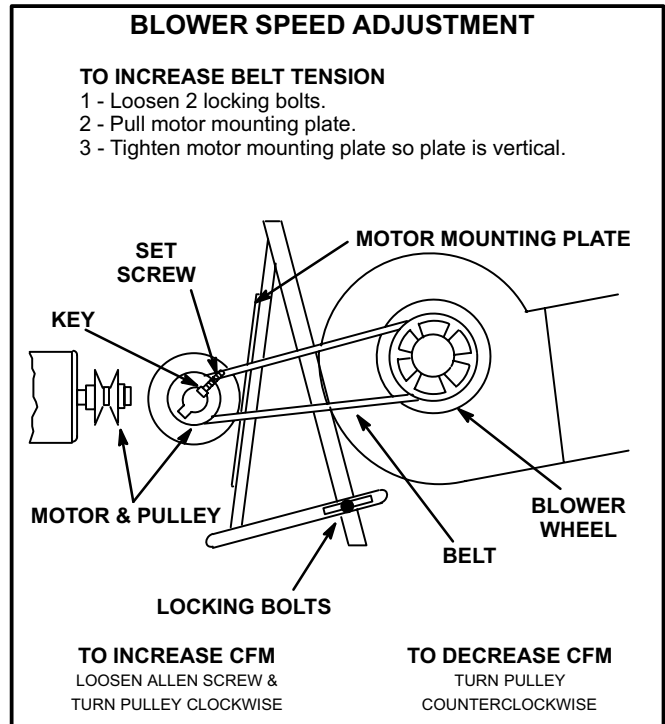

FIGURE 13
*Important-Tension new belt after a 24-48 hour period of operation. This will allow belts to stretch and seat grooves. To increase belt tension, loosen 2 locking bolts and pull mounting plate. Tighten motor mounting plate in vertical position. See figure 13.*